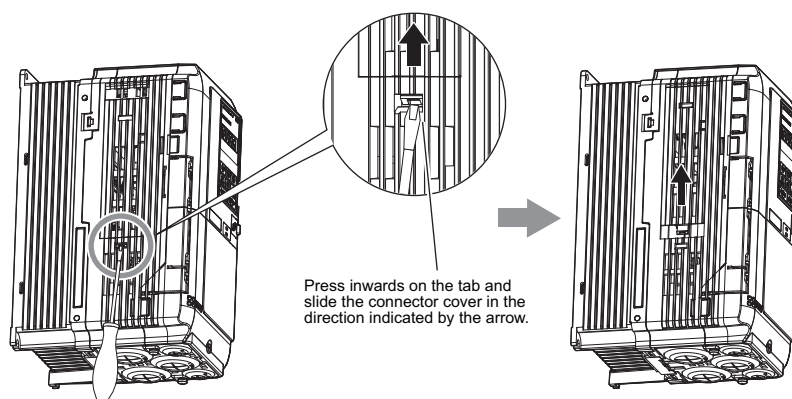

Figure 4.28 Removing the Connector Cover
1. Insert the tip of a screwdriver into the opening on the edge of the CN19 connector cover. Slide the cover off the drive as indicated in Figure 4.28.